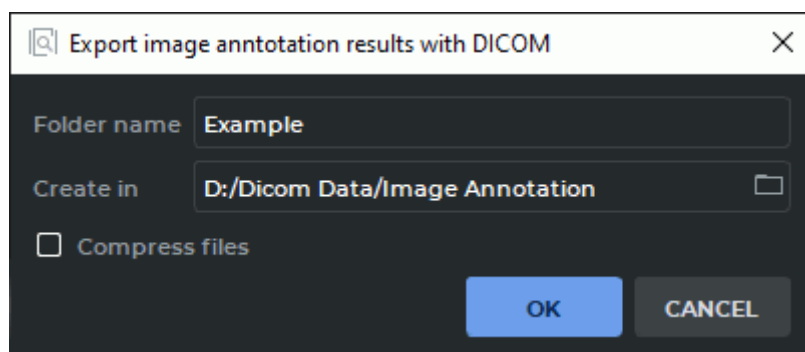

Figure 11.6: A dialog box for export of image annotation results with DICOM
2. In the **Export image annotation results with DICOM** dialog box (Fig. 11.6), enter the name of the destination folder in the **Folder name** field.